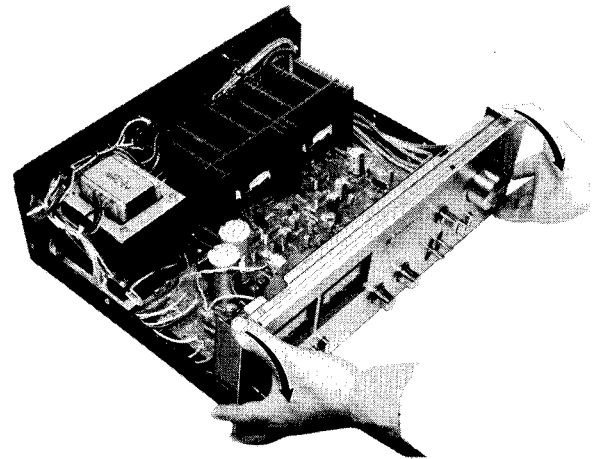

Fig. 3
6. As photo in Fig. 3, hold the panel at its side ends and push it downward tilting slightly its top part to the forward direction.